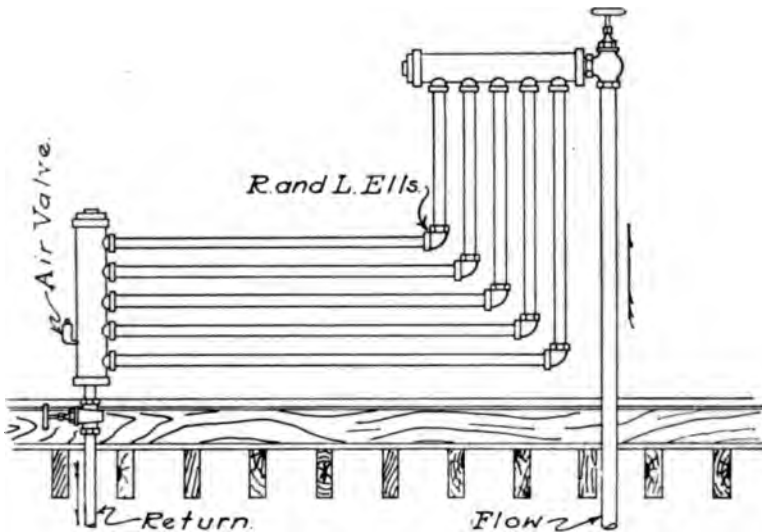

Fig. 14.—A "Harp" or Mitre Coil.
A. A coil built with a mitre and shaped like the letter L, the short end of the mitre being placed vertically when the coil is hung in position. The mitre is used in order that the elbows will provide for expansion and contraction. Fig. 14.